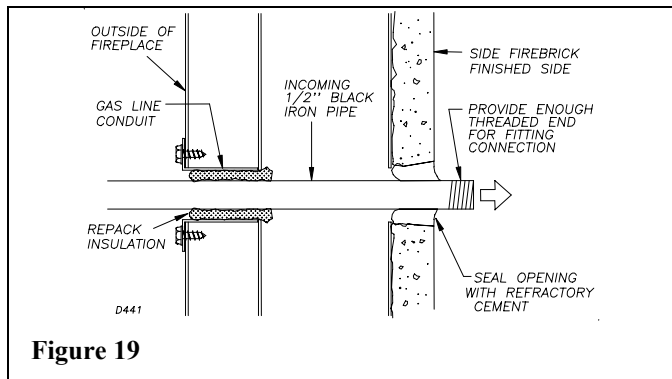

Figure 19
STEP 3: Run a 1/2 inch black iron gas line into the fireplace through the rear at 11 - 1/4 inches from the floor and through gas line conduit sleeve (if using a raised platform, add height). Provide sufficient gas line into fireplace chamber for fitting connection (see figure 19).